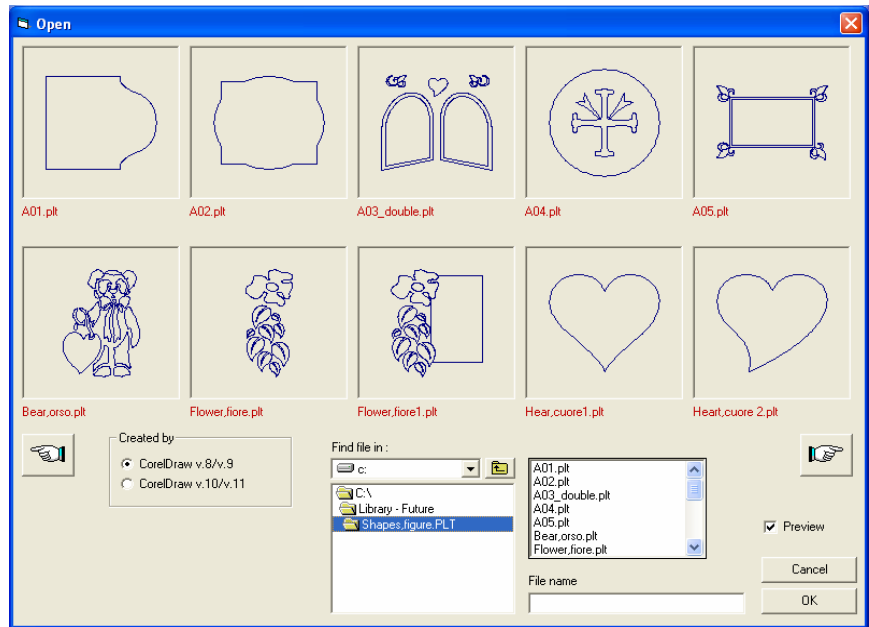

Figure 2.10
**A sample of pre-drawn .PLT files is saved in the C:\Library-Future\Shapes figure.PLT directory, as shown in Figure 2.10.**